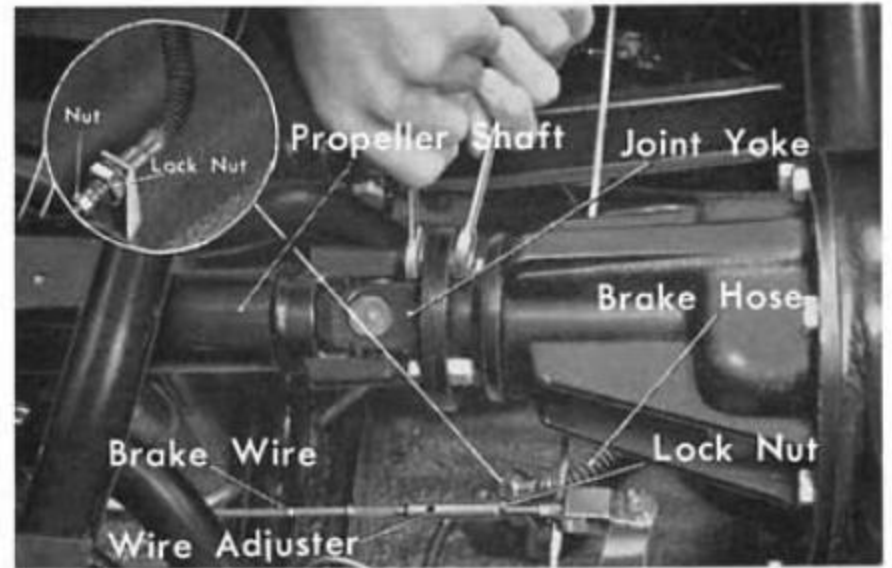

Fig. 8B-5
8. Remove the torque rod setting bolts, nuts and washers at the right side and then disassemble the torque rod (Fig. 8B-6).